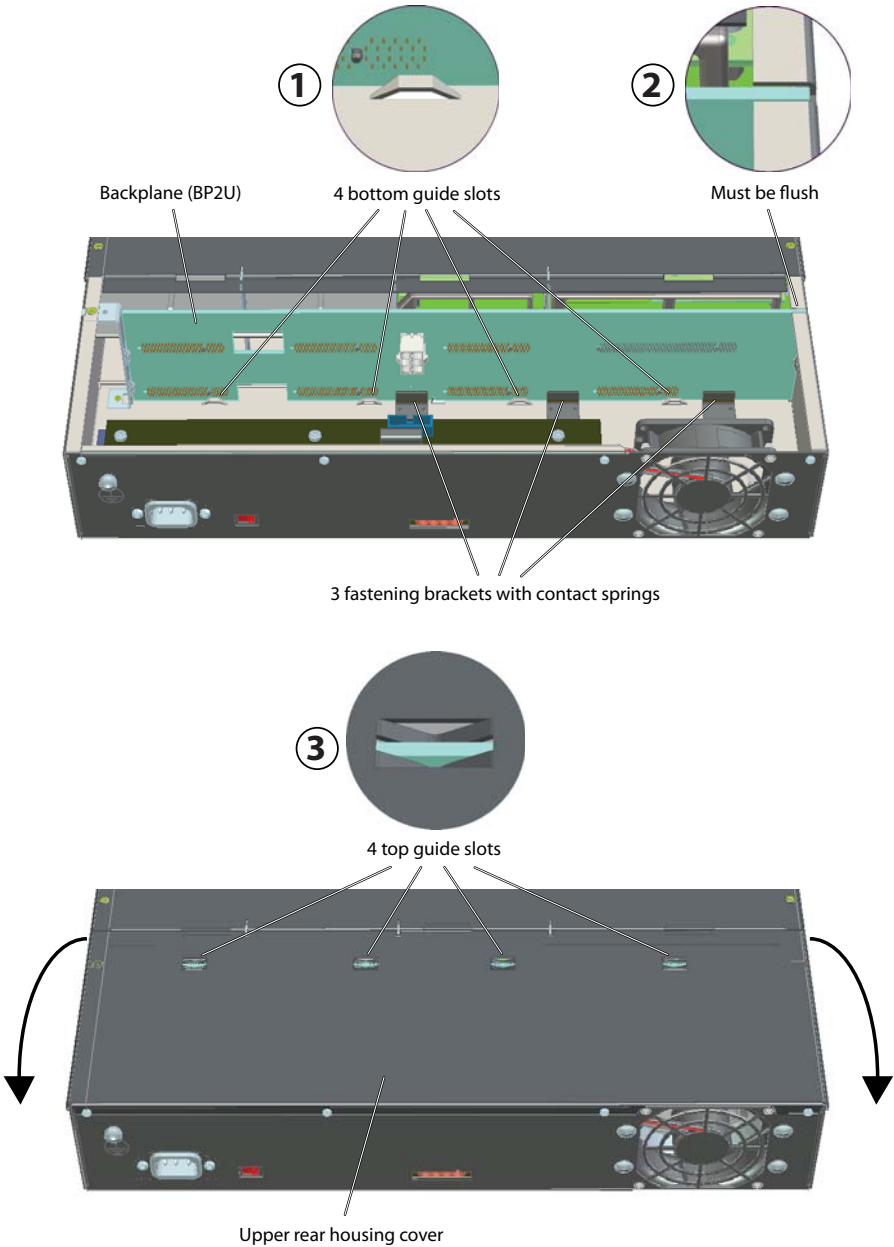

Fig. 20 Correct sitting of backplane BP2U
6. Fit the upper rear housing cover. In so doing follow the instructions on how to ensure that the backplane BP2U sits correctly, on page 102 and the corresponding diagram (Fig. 20).
- Check that the backplane is sitting properly in the 4 lower guide carriages. In any case, you must press down the backplane slightly since the contact springs create a certain counter-pressure behind the mounting brackets (see ① in Fig. 20).
- Check whether the backplane does not protrude from the upper part of the housing (see ② in Fig. 20).
- While closing the upper rear cover, check that the backplane is sitting correctly in the 4 upper guide carriages. It should be possible to close the cover without strain and without bending it (see ③ in Fig. 20).